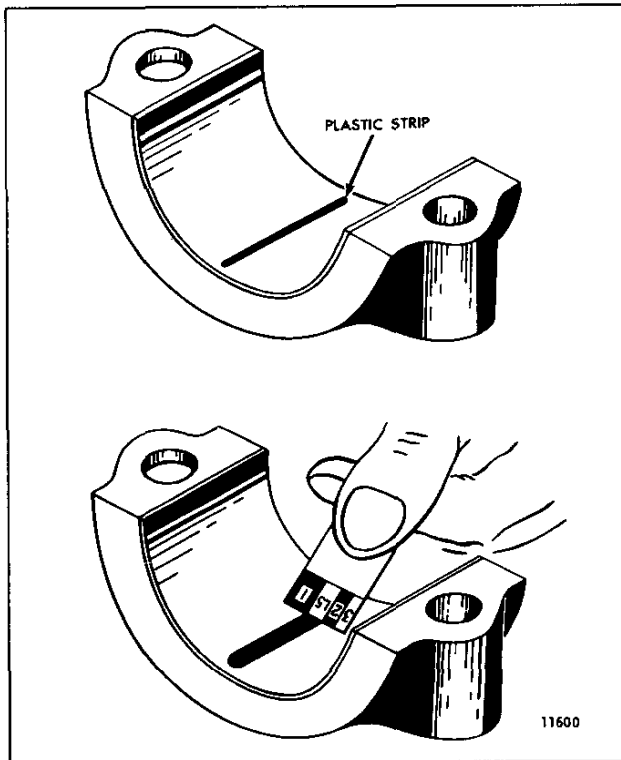

Fig. 1 – Using Plastic Strip to Measure
2. Place a piece of the plastic strip the full width of the bearing shell, about 1/4” off center (Fig. 1).
5. Compare the width of the flattened plastic strip at its widest point with the graduations on the envelope (Fig. 1). The number within the graduation on the envelope indicates the bearing clearance in thousandths of an inch. Taper may be indicated when one end of the flattened plastic strip is wider. Measure each end of the plastic; the difference between the readings is the approximate amount of taper.